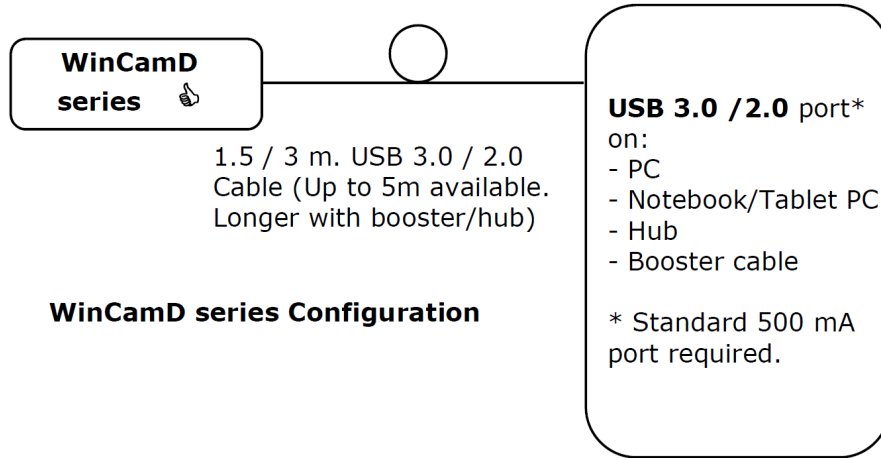

Fig. 3.2: WinCamD Series Configuration.
2. Start the PC. Connect the USB 3.0 / 2.0 between the head and the PC (see Fig. 3.2). Booster cables or hubs are required for >5m [16ft]; look under Accessories at our website.